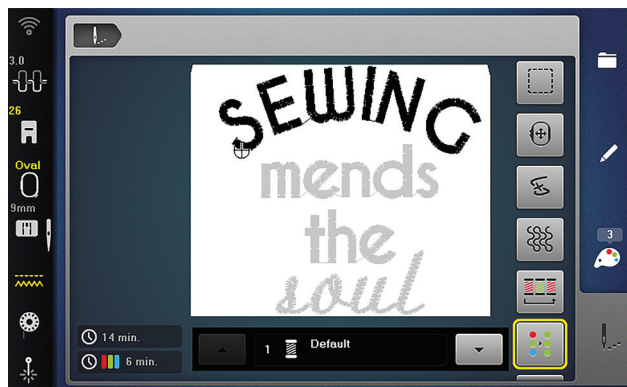

Fig. 18
21.  Select the Single Color icon (Fig. 18).